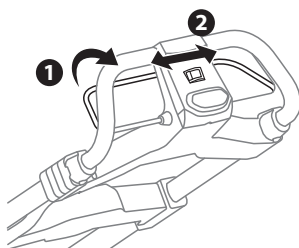

Fig. 9
2. Grasp the safety control bar and adjust the variable speed control. The lawn mower will move forward automatically without cutting (1, Fig. 9).
3. Press the start button, grasp the safety control bar, and adjust the variable speed control. The lawn mower will move forward automatically with cutting (2, Fig. 9).